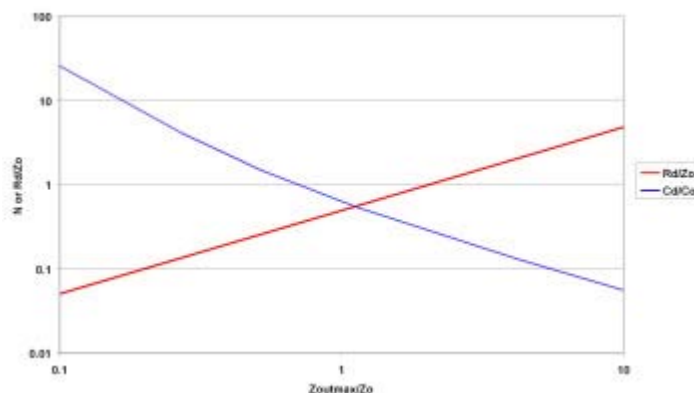

Figure 3: Once you pick LO and Co, choose CD and RD from maximum allowable source impedance.
Figure 3 can be quite useful in selecting the damping components. This chart was prepared using the closed form solution developed by RD Middlebrook. The abscissa is the ratio of the damped filter output impedance to the characteristic impedance of the undamped filter ($Z_O = (LO/CO)^{1/2}$). There are two ordinate values: the ratio of damping capacitor to filter capacitor (N); and the ratio of the damping resistor to the characteristic impedance. To use this chart, first pick LO and CO based on circuit requirements to establish Z_O . Next, establish your maximum input filter source impedance by dividing the minimum power supply input